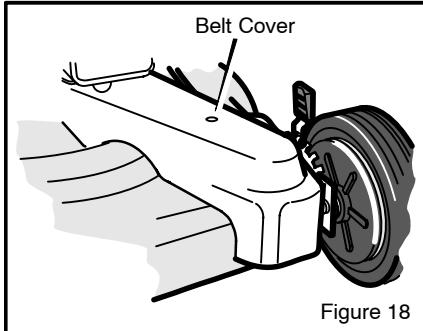

Figure 18
1. Remove the screw that secures the belt cover. Remove the **belt cover** (Figure 18).
8. Install the **belt cover** (Figure 18).